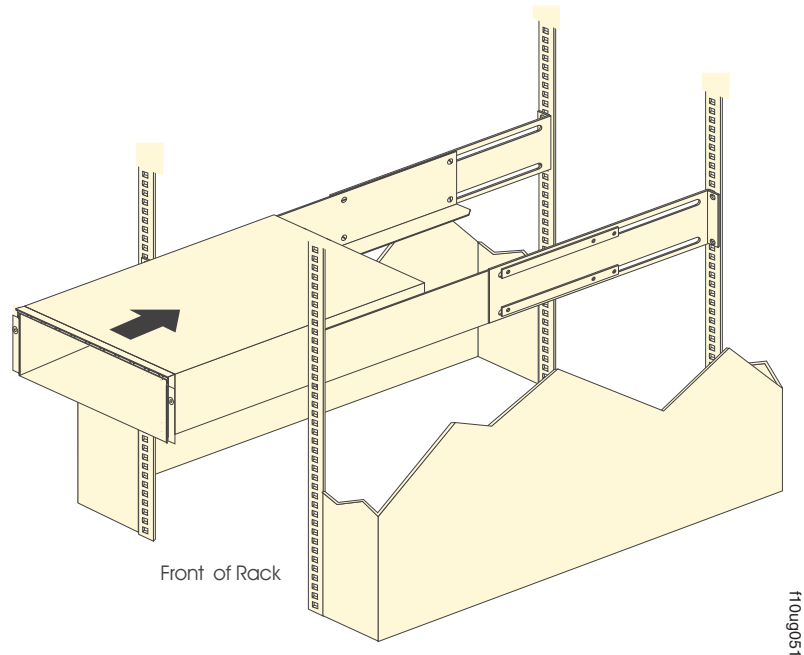

Figure 15. Installing the FAST100
- b. With help from another person, place the back of the storage server on the support rails. Slide the unit into the rack, as shown in Figure 15 on page 25.